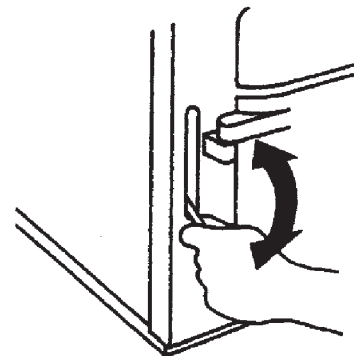
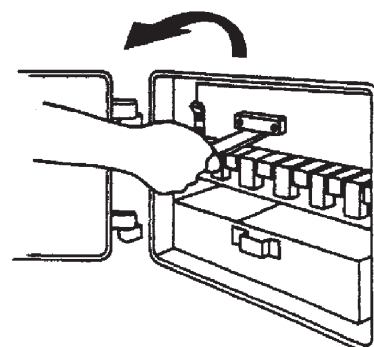

Fig.8
Fig.10
- De-ash (Fig. 8) and remove clinker door (Fig. 10). Insert flat bayonet type gas poker on top of bottomgrate bars.